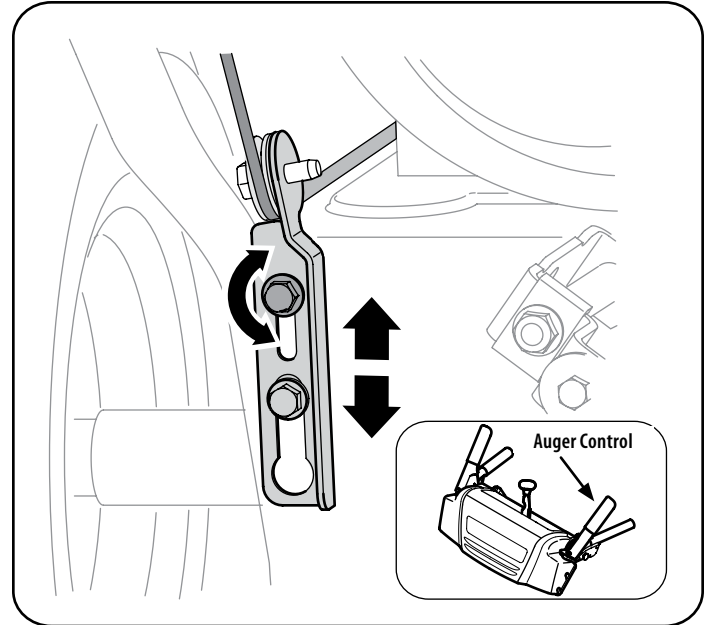

Figure 37
1. The auger control is located on the left handle. See Figure 37 inset. When the auger control is released and in the disengaged "UP" position, the cable should have very little slack. It should NOT be tight.
7. To readjust the control cable, loosen the upper hex bolt on the auger cable bracket. See Figure 37.